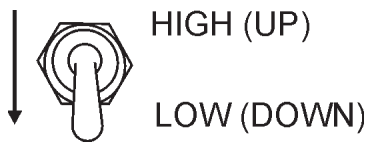

Figure 49. Engine Speed Switch (Low)
6. Set engine speed switch to **"LOW"** (Figure 49).